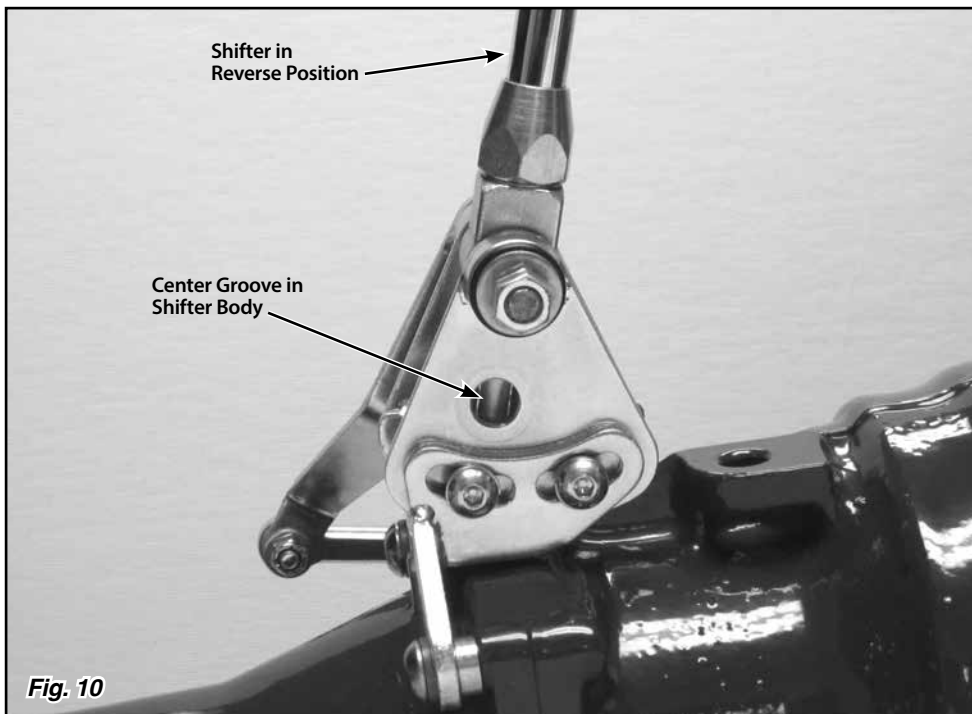

Fig. 10
**Step 16:** Put the Shifter into the Reverse position. Reposition the switch plate so that the hole in the switch plate lines up with the center groove in the shifter body. **Fig. 10** Screw the provided aluminum adjuster plug into the neutral safety switch opening. Wiggling the switch plate slightly forward and back while you are screwing the aluminum adjuster plug in will help get the shifter body centered on the adjuster plug. **Fig. 11**